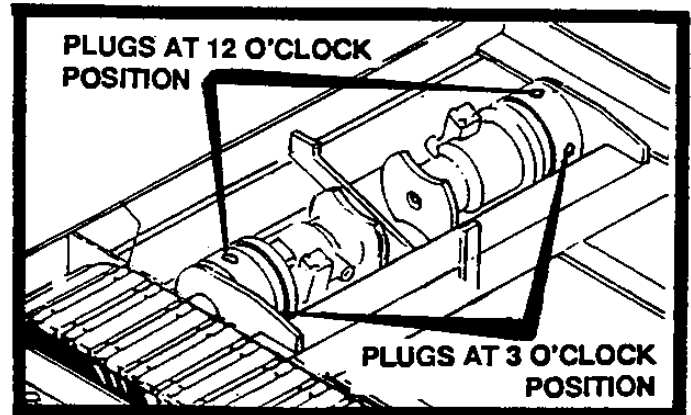

FIGURE 29
1. Check oil level in the torque hub by removing the plug at the 3 o'clock position. If oil comes out, no oil is needed. Insert plug and tighten. If oil does not come out, remove the plug at the 12 o'clock position and fill torque hub with **90 wt. gear oil** until oil starts to appear at the other hole. Replace both plugs and repeat process to other torque hub. See Figure 29.